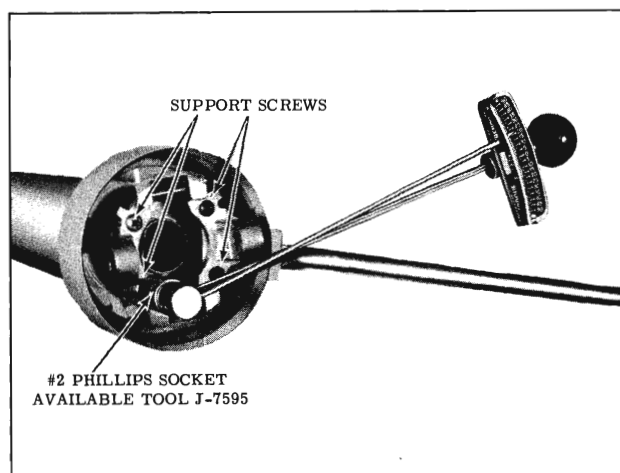

Fig. 4-99 Installing Support Screws
9. Install the support on the upper end of the mast jacket with the long leg aligned with the notch in the low side of the lock plate, then install the four attaching support screws. (Fig. 4-99) Torque the two larger (left) screws first, 20 to 25 in. lbs., then torque the right two screws 20 to 25 in. lbs. using a No. 2 Phillips Socket, J-7595.